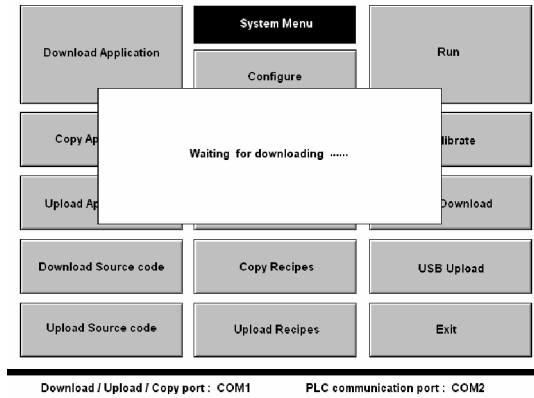

Figure D-22: the screen of “waiting for Downloading”
- 1-2. Be sure DIP-SW No 7 is “ on” then turn on the power on HMI and press the “USB Download” button on system menu. The PWS3261 displays “waiting for Downloading” and is ready to receive a download. See Figure D-22.